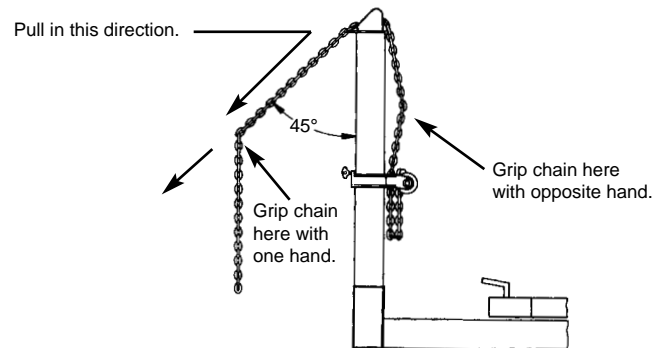

Figure 17
2. To adjust slack tower chain, grip chain on each side of tower. (See Figure 17.) Lift out tail of chain until it is approximately 45 degrees from tower. Then disengage chain from tower head and pull chain to either increase or decrease amount of slack.